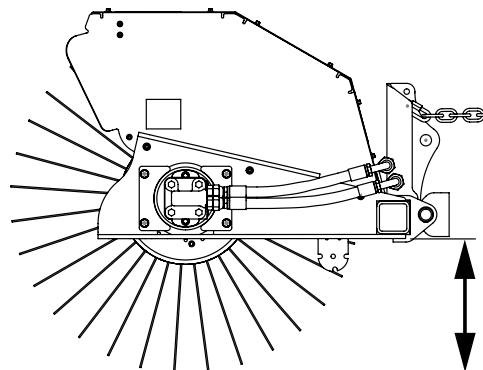

Figure 3
6. Position the brush head assembly straight ahead. On each side, measure from the brush frame to the ground (figure 3). If measurements are not equal: